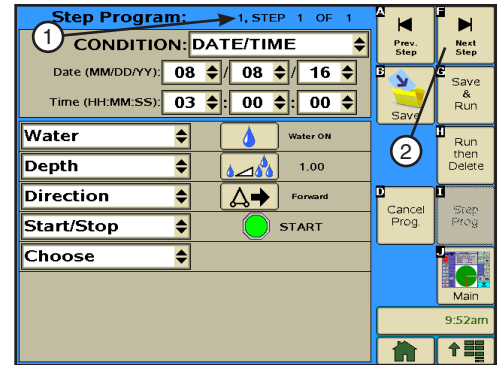

Figure 163-1 1. Step Program Identifier
5. Program the date and time condition for this step, do the following. Refer to Figure 163-1.